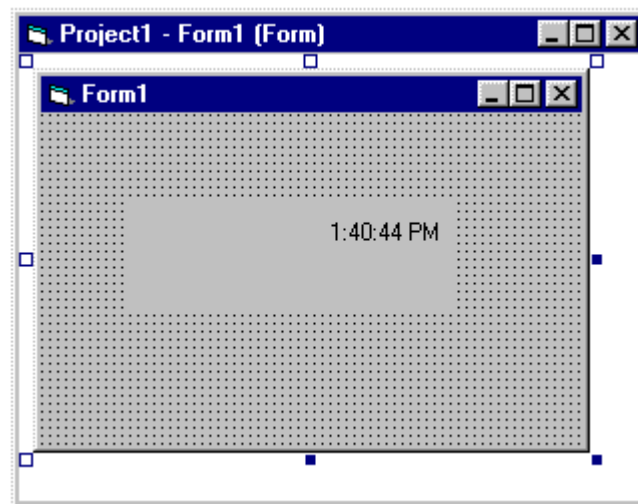

Figure 6. Even though the form isn't running, the code in the new ActiveX control is.
7. **Open Form1 in design view** and place an instance of the Meter control on the form. If you wait a second, you'll notice that the new control's label displays the current time. Figure 6 shows the control running on the form that's in Design view.